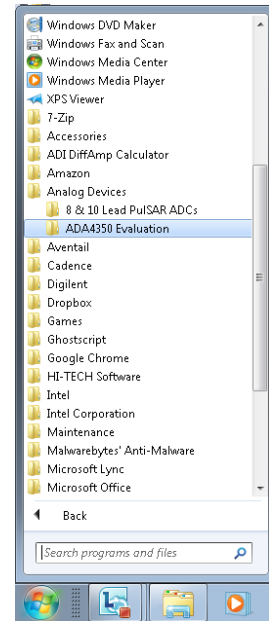

Figure 5. Location of the LabVIEW Control Panel Program
2. Download the LabVIEW® control panel from <http://www.analog.com/ada4350-demoinstaller>. Unzip the file, click **setup.exe**, and follow the installation prompts. If the installation is successful, the **ADA4350 Evaluation** icon appears under **Start > Programs > Analog Devices** (see Figure 5).